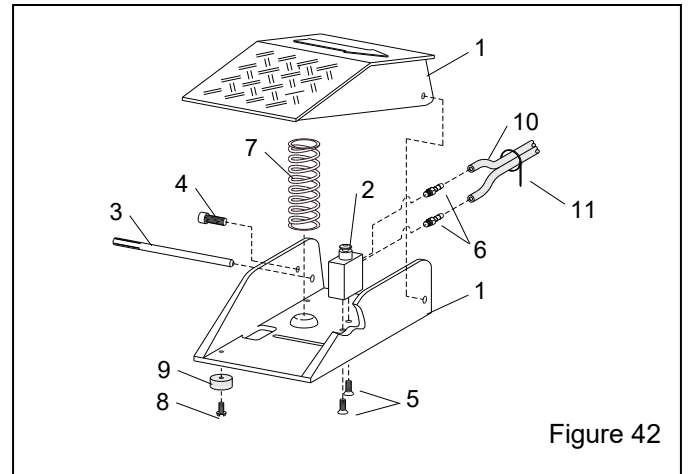

Figure 42
9.5 Foot-Pedal Assembly – Figure 42